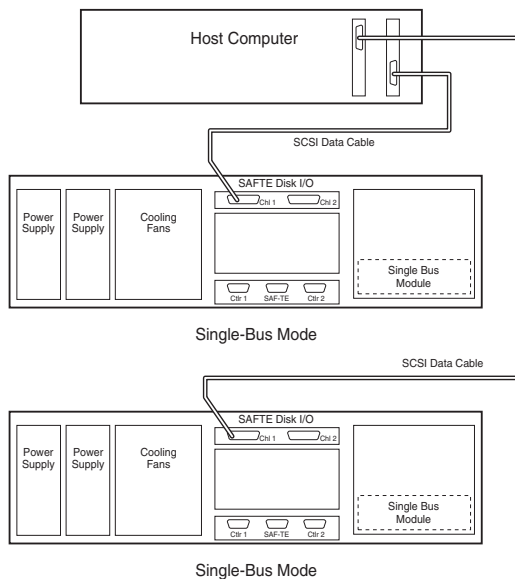

Figure C-3 Cabling Diagram JBOD Dual Enclosures
- 5 Connect a SCSI data cable from the host system HBA(s) to the SAF-TE disk I/O card Channel 1 connectors on each enclosure, as shown in Figure C-3.